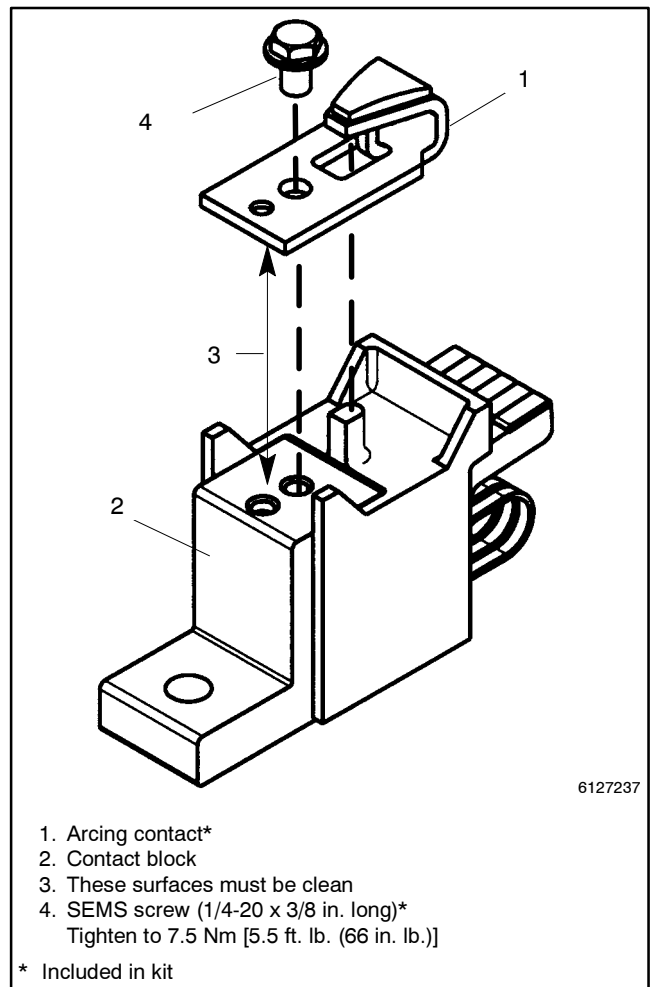

Figure 8-16 Stationary Arcing Contact
2. Remove the stationary arcing contact. Use a 3/8 in. socket wrench to remove the hex head (SEMS) screw, then remove the stationary arcing contact. See Figure 8-16.
3. Install the new stationary arcing contact. Make sure the arcing contact and contact block surfaces are clean (do not use any abrasive). Use a 3/8 in. socket wrench to install a new hex head screw (SEMS 1/4-20 x 3/8 in. long) and a new stationary arcing contact onto the contact block. The rectangular protrusion should align with the rectangular hole in the arcing contact. Tighten the screw to 7.5 Nm [5.5 ft. lb. (66 in. lb.)]. See Figure 8-16.